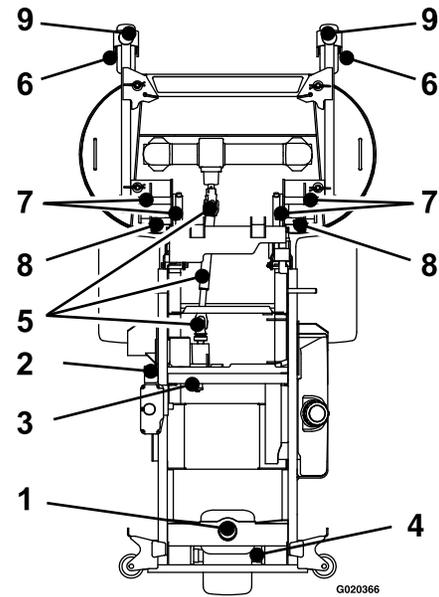

Figure 30
- Lubricate the pump-belt idler arm (Figure 30).